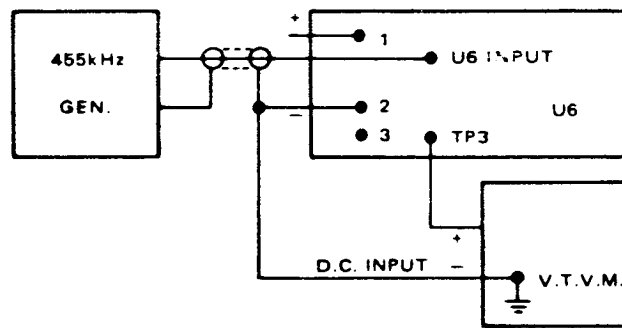

Figure 5
1. Set up the equipment as shown in Figure 5.
5. To check the discriminator, vary the input frequency by 5 kHz (N) or 15 kHz (NW) and check that the change of output is $\geq 1\text{V}$ (N) or $\geq 2\text{V}$ (NW).